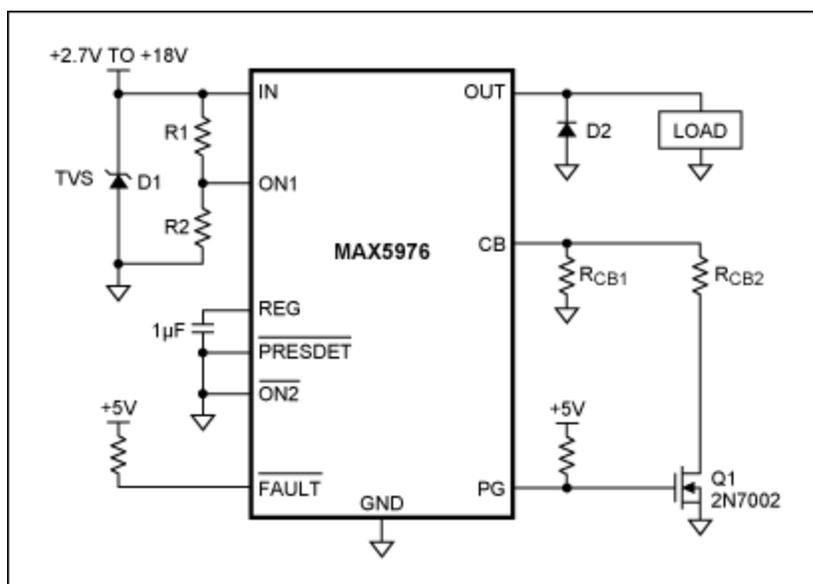

Figure 1. PG output controls an external transistor to reduce the overcurrent limit after startup.
To solve this problem, a simple inverting scheme employs the load switch's open-drain power-good output (PG) to connect a second current-limit configuration resistance in parallel after startup. This design (**Figure 1**) reduces the current available to the load after startup is complete. During startup, while the output voltage is below the input, the PG output pulls low and the current limit is set by R_{CB1} . After the output rises and the 16ms power-good delay elapses, the PG output goes high impedance. This allows the gate of Q1 to rise, connecting the second resistor, R_{CB2} , in parallel with R_{CB1} and reducing the overcurrent threshold.